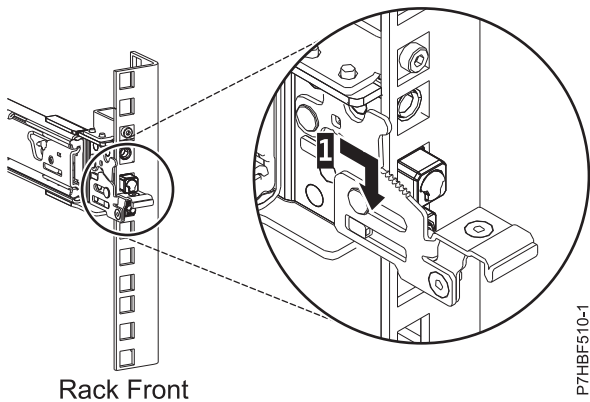

Figure 4. Pins that are seated on the front rail of the rack
4. At the front of the rack, insert three pins on the front of the rail into the holes within the selected EIA unit that were previously marked. Lower the slide rail down (1) to engage the hook feature on the middle pin. For details, see Figure 4.